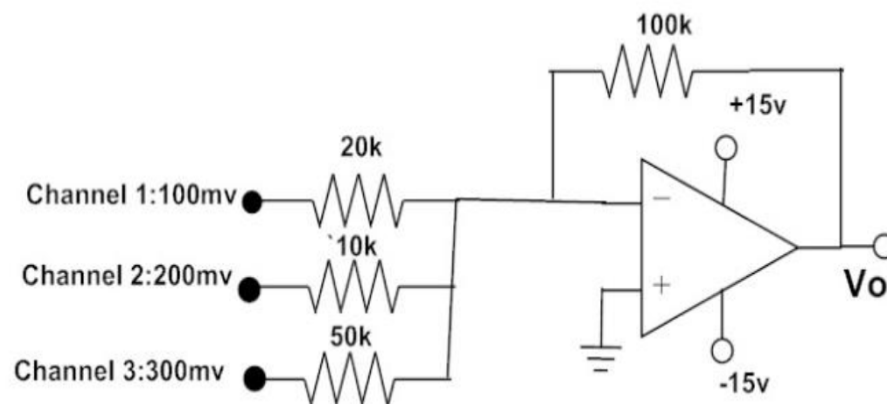

Figure 4(b) / Rajah 4(b)
- CLO1 (b) Briefly explain how these signals can be applied as a summing amplifier as shown in figure 4(b).